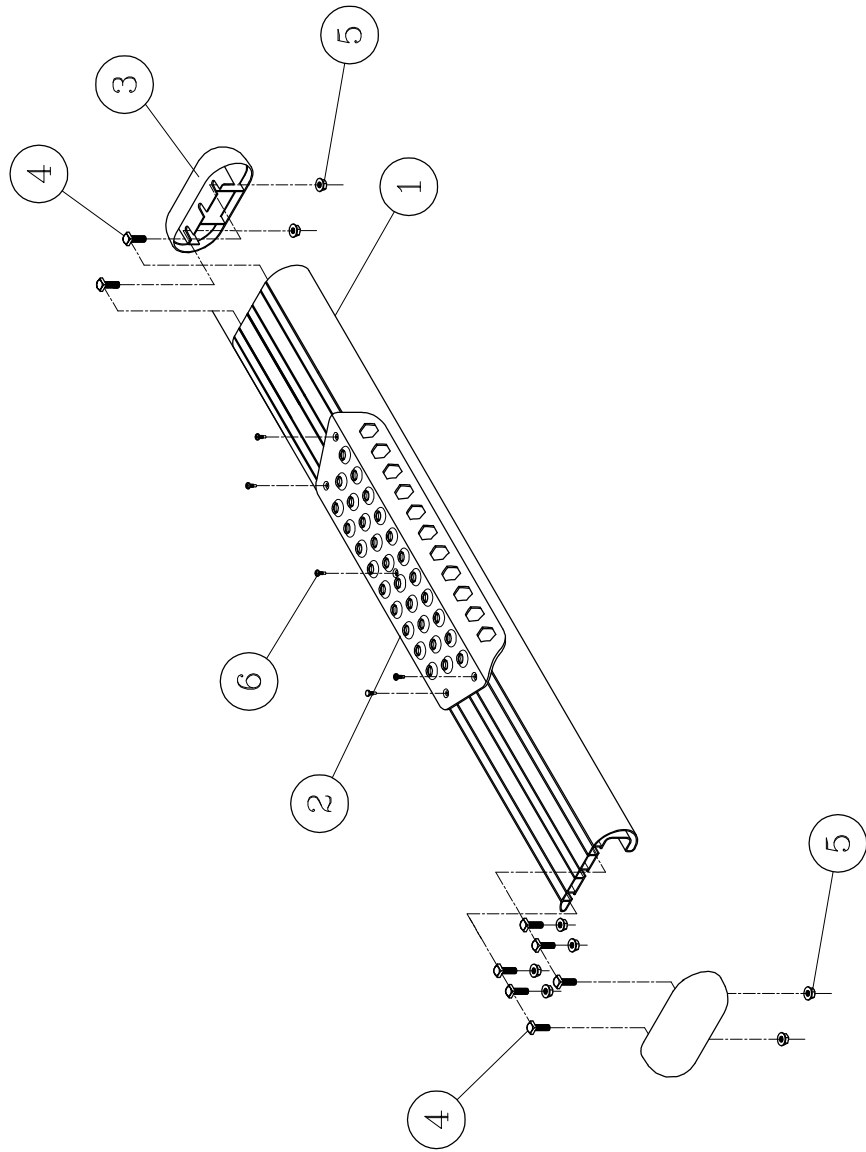

fig.1
3. BEFORE ATTACHING THE O-MEGA STEPS TO THE BRACKETS, PLACE THE STEP PADS (ITEM #2) ON TOP OF THE STEP PLATES ACCORDINGLY FOR YOUR VEHICLE. USING THE HOLES IN THE STEP PAD AS A GUIDE DRILL (5) 1/8" PILOT HOLES. ATTACH WITH (5) 8-18X1/2" TEK SCREWS (ITEM #6) PROVIDED. REPEAT FOR ALL STEP PADS.
5. INSTALL THE END CAPS (ITEM #3) AS SHOWN IN (FIG.1), TIGHTENING THE SERRATED NUTS (ITEM#5) TO 5 LB FT.
2. INSTALL THE MULTI-THREAD U-NUT (ITEM #14) ON THE FRONT MOUNTING BRACKET (ITEM #3) AND ASSEMBLE THE 3/8"-16 X 5 STUD (ITEM #11), 3/8"-16 SERRATED FLANGE NUTS (ITEM #13) AND THE .354 X 1.00 X .748 RUBBER WASHER (ITEM #17) INTO THE U-NUT (ITEM #14) (**LOAD REACTION BOLT ASSEMBLY**) AS SHOWN IN *fig. 1*.
5. INSTALL THE MULTI-THREAD U-NUT (ITEM #14) ON THE SECOND MOUNTING BRACKET (ITEM #5) (**USE THE TOP HOLE ON 1500 VANS AND THE BOTTOM HOLE ON 2500 & 3500 VANS**) AND ASSEMBLE THE 3/8"-16 X 1-1/4" SCREW (ITEM #10) AND 3/8"-16 SERRATED FLANGE NUT (ITEM #13) INTO THE U-NUT (ITEM #14) (**LOAD REACTION BOLT ASSEMBLY**) AS SHOWN IN *fig. 1*.